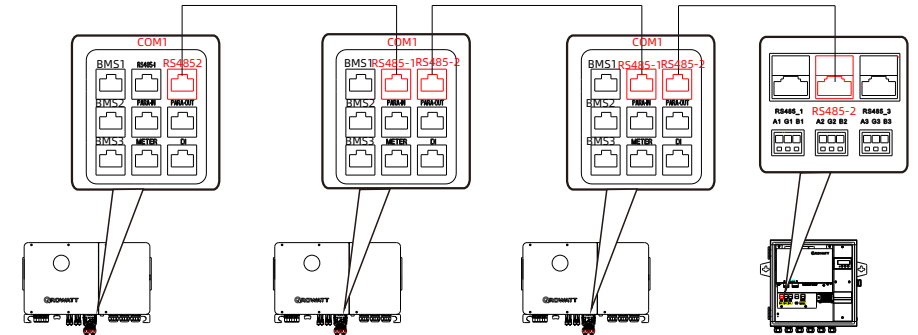

Figure 3-14 Communication wiring diagram between WIT and SEM-X
Step 1: Connect the RS485-2 of the first WIT COM1 to the RS485-1 of the second WIT COM1 via Ethernet cable, and connect the RS485-2 of the second WIT COM1 to the RS485-1 of the third WIT COM1 via Ethernet cable. Repeat this process to connect all WITs, as shown in Figure 3-14.